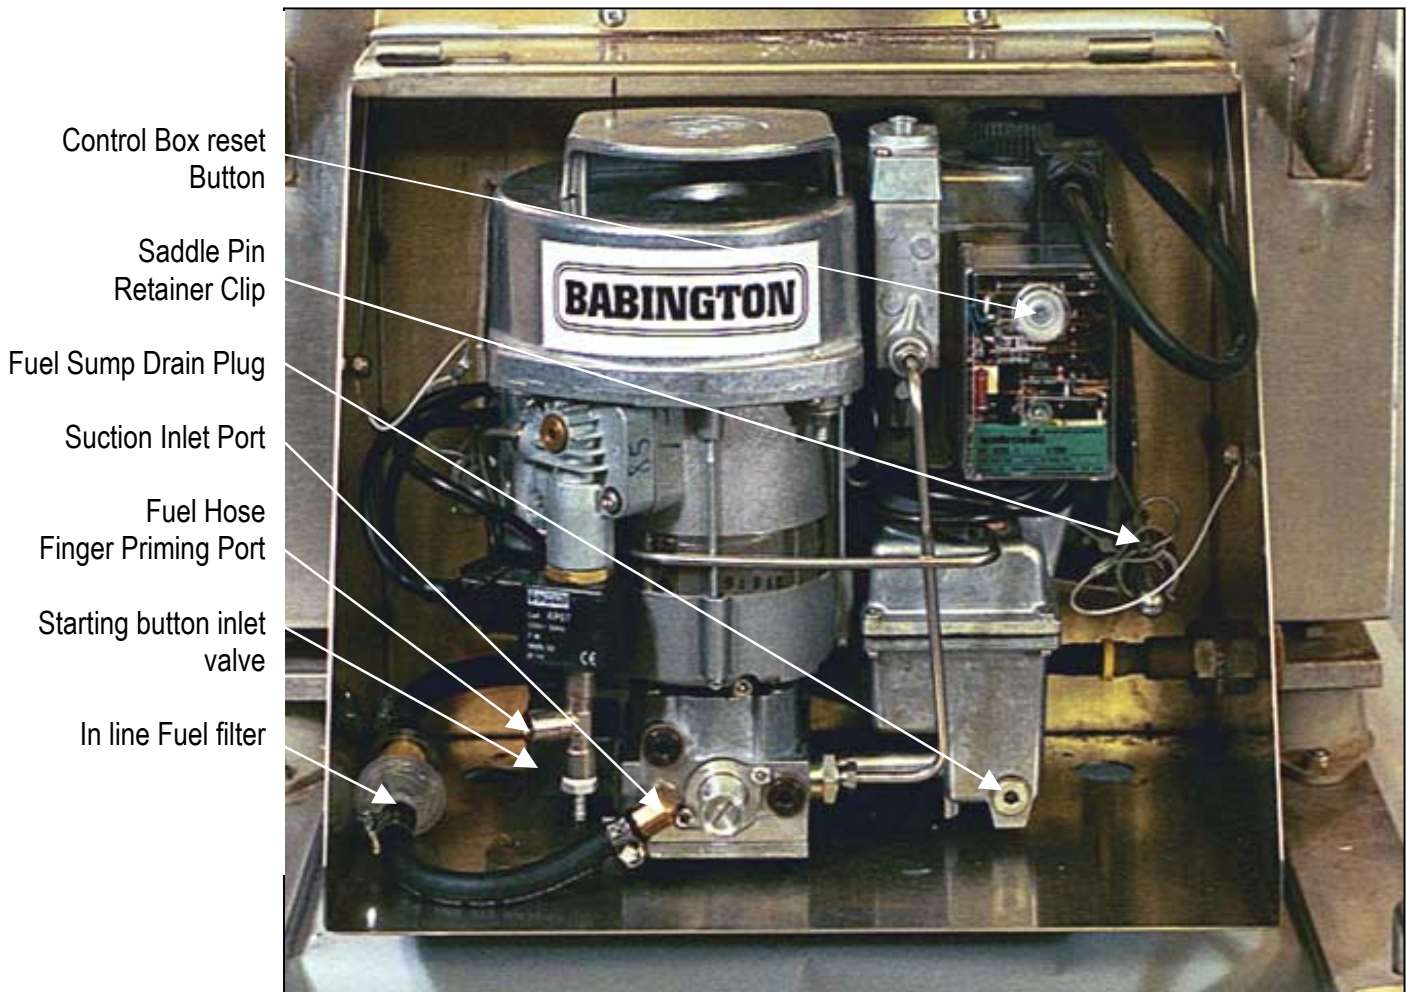

Figure 1-7. Airtronic Burner Fuel Supply System
c. **Airtronic Burner Fuel Supply System.** Figure 1-7 portrays the fuel system; table 1-4 contains pertinent fuel system data. The 5-gallon fuel supply, independent of the vehicle supply, is easily installed/deinstalled for use inside the HMMWV or for use in static situations. A quick-disconnect Swagelok on the fuel line permits separation of the fuel source from the Airtronic Burner without spilling fuel line contents.